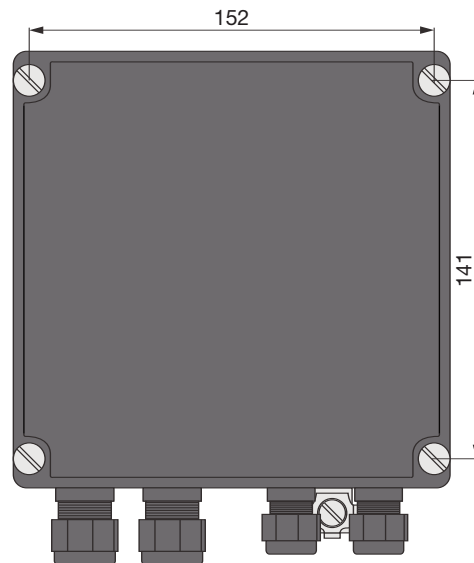

Fig. 16: Drilling dimension OZD Profi G12DK ATEX 1
- ▶ Drill four holes in the assembly plate as per the drilling dimensions in figure 16.